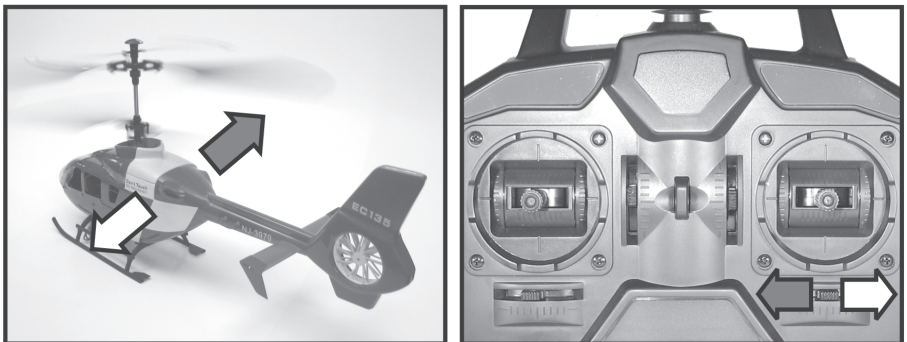

Figure 16
If the helicopter wants to drift or tilt to the right (see figure 16), reduce the speed and slide the trim slider for the roll function (see figure 1, item 4) gradually to the left.